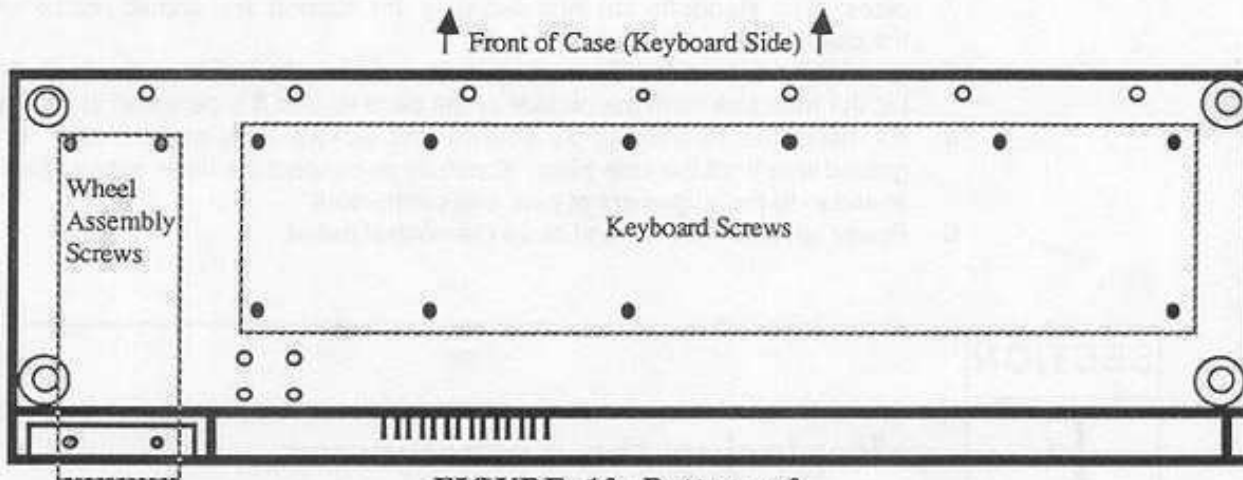

FIGURE 10--Bottom of
2. Remove the four (4) screws that secure the control panel and raise the panel.
3. Remove the six (6) screws that fasten the metal Main board shield to the case and keyboard frame. Disconnect the Display cable (J4), the Power cable (J11), and the Pitch/Mod Wheel cable (J12) from the Main board. Remove the metal shield from the unit.
4. Place the unit upside down on a soft surface and remove the ten (10) screws that attach the keyboard to the case. See **Figure 10** for location of screws.
2. Remove the four (4) screws that fasten the control panel and raise the panel.
3. Place the unit upside down on a soft surface and remove the four (4) screws that attach the Wheel Assembly to the case. See **Figure 10** for location of screws.